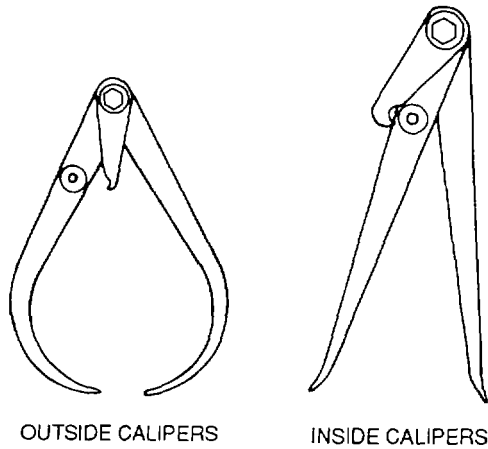

Figure 3-26. Transfer Calipers
(3) *Transfer calipers.* Transfer calipers are used for measuring chamfered grooves or flanges. A screw attaches a small auxiliary leaf to one of the legs, as shown in figure 3-26. The measurement is made as with ordinary calipers. The leaf is locked to the leg. The legs may be opened or closed as needed to clear the obstruction. The legs are then brought back and locked to the leaf, restoring them to the original setting.